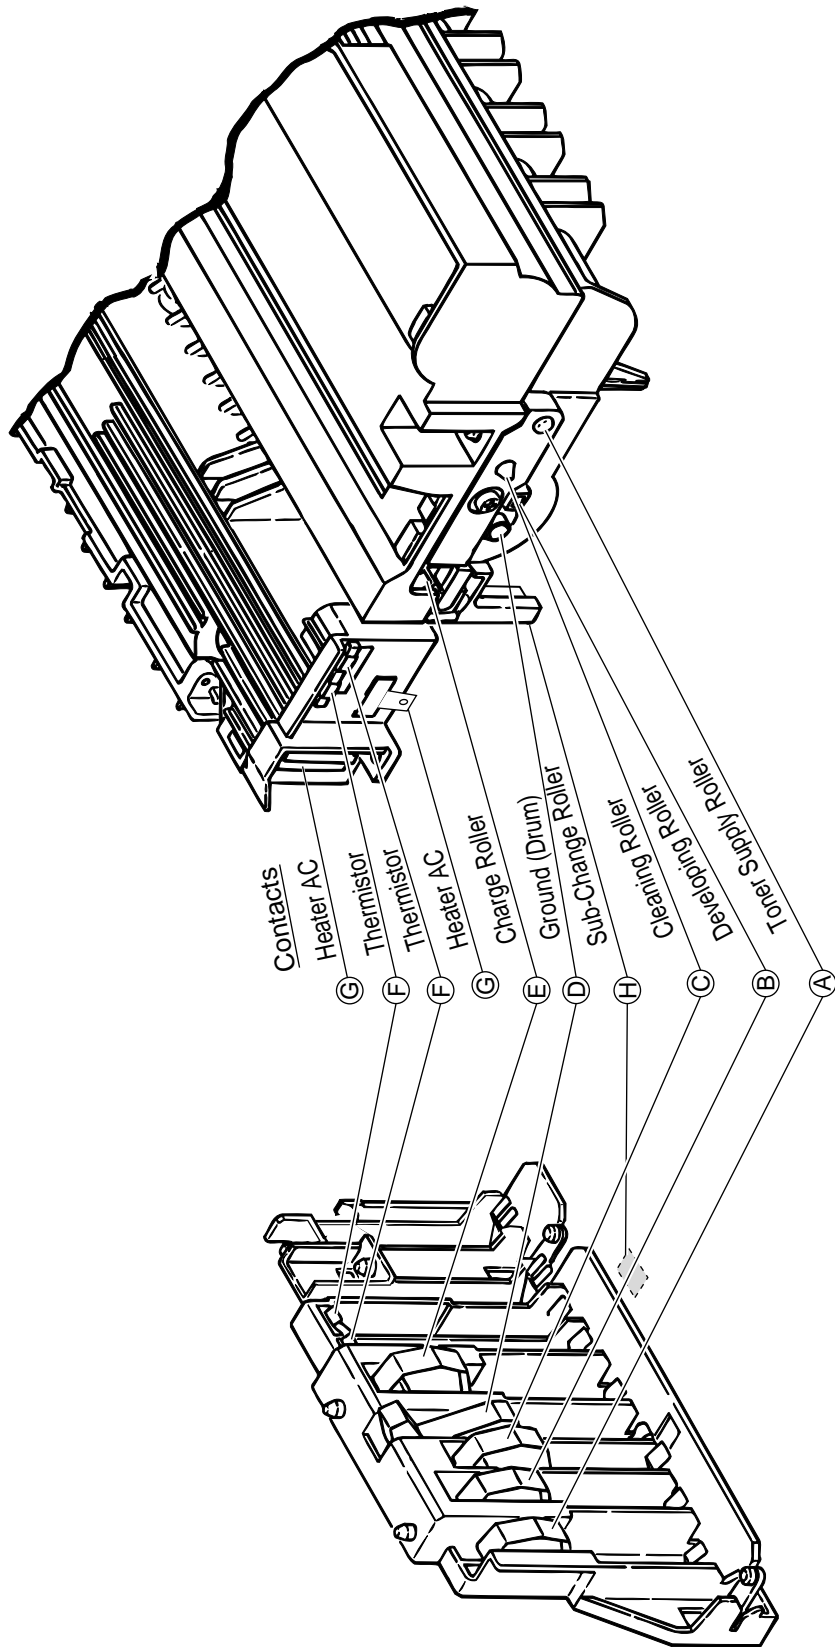

Figure 6-4
- ▼ Yes Check the heater connector cord and the heater contact for poor contact (see Figure 6-4 contact ③).
- ▼ Yes      Are the contact of the developing roller and the contact of the toner supply roller of the image drum cartridge in contact with the contact assembly properly (see Figure 6-4 (A) and (B))?